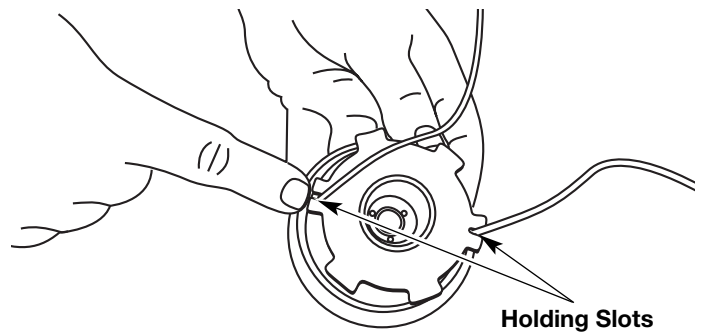

Fig. 18
- Insert the ends of the line into the two holding slots (Fig. 18).